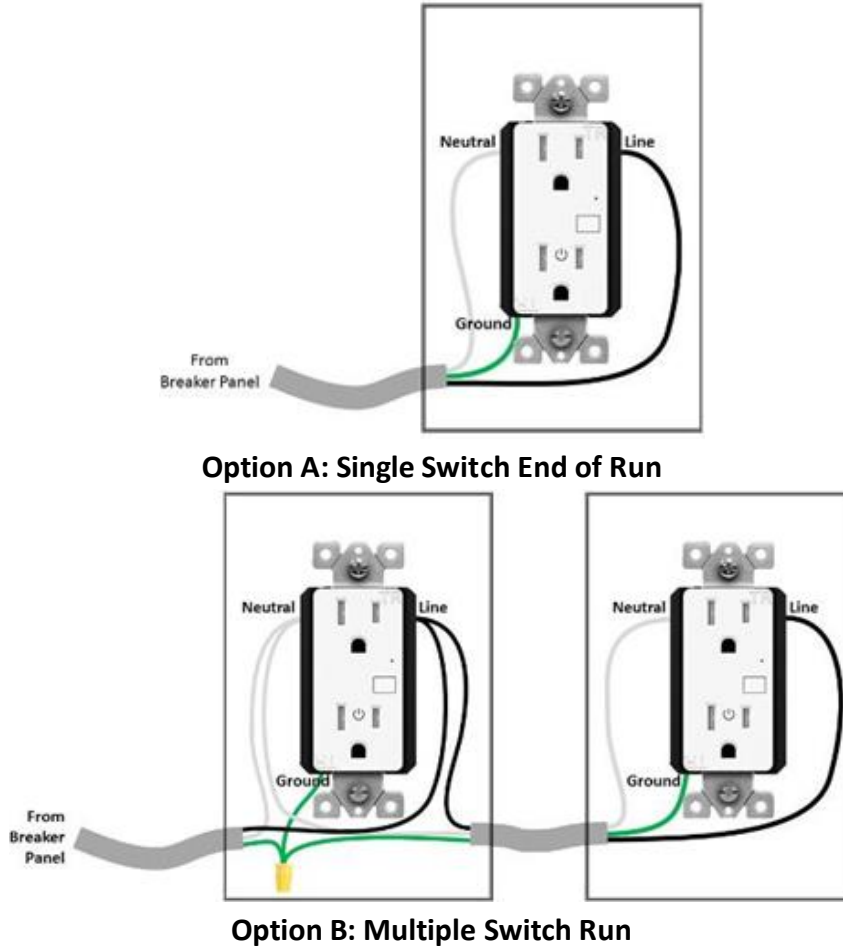

Figure 2-1 Wiring Diagrams
5. Identify the appropriate wiring diagram for your installation situation. Common installation diagrams are described in Figure 2-1, other options are possible. Always follow appropriate electrical codes and regulations.